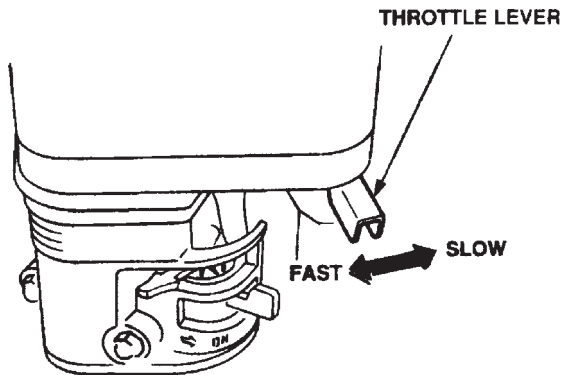

Figure 15. Throttle Lever
5. Rotate the **throttle lever** (Figure 15) halfway between **fast** and **slow** for starting. All sawing is done at **full throttle**. The engine governor speed is factory set to ensure optimum blade operating speeds.